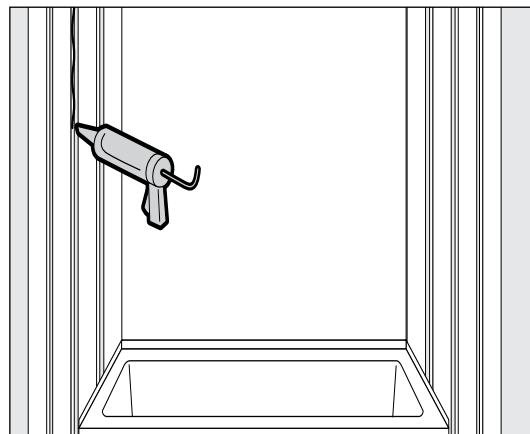

FIGURE 8. Apply adhesive.
- e. Apply adhesive to studs for faucet side panel and place side panel. (Fig. 8)